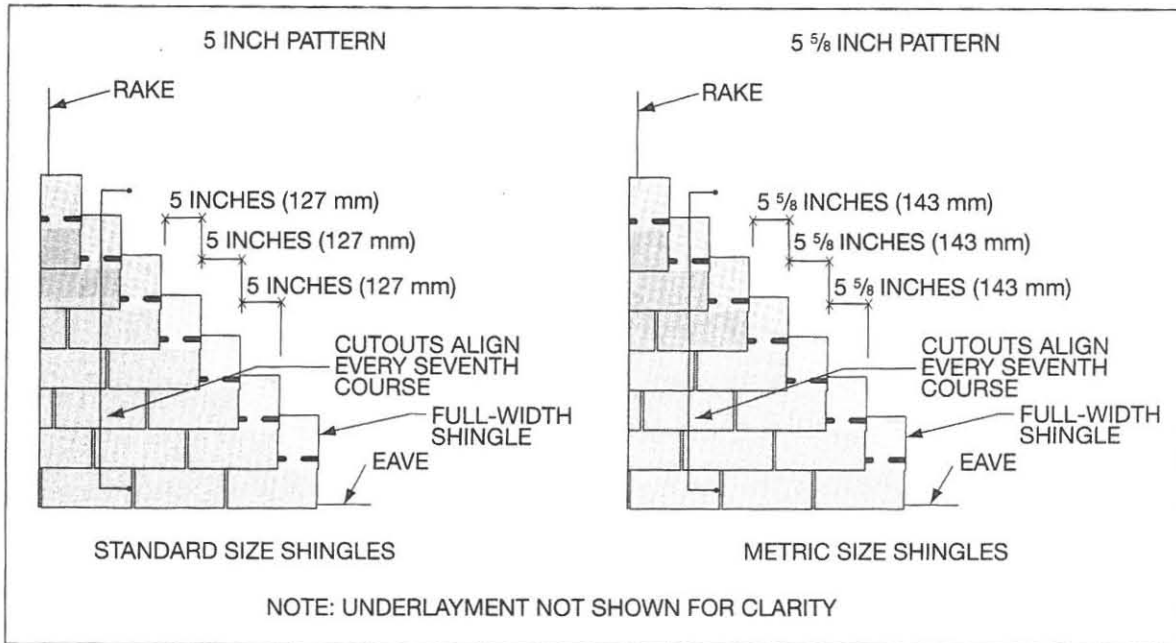

Figure 10:
- 5- and 5 $\frac{1}{2}$ -inch methods — A more random visual affect of a finished roof system can be achieved by offsetting cutouts in neighboring courses. For standard-sized shingles, the offset pattern is usually accomplished by removing approximately 5 inches (125 mm) from each consecutive course (after the first full-width shingle in the first course). For metric-sized shingles, this offset pattern is achieved by offsetting each consecutive course 143 mm (5 $\frac{1}{2}$ inches) as shown in Figure 10.